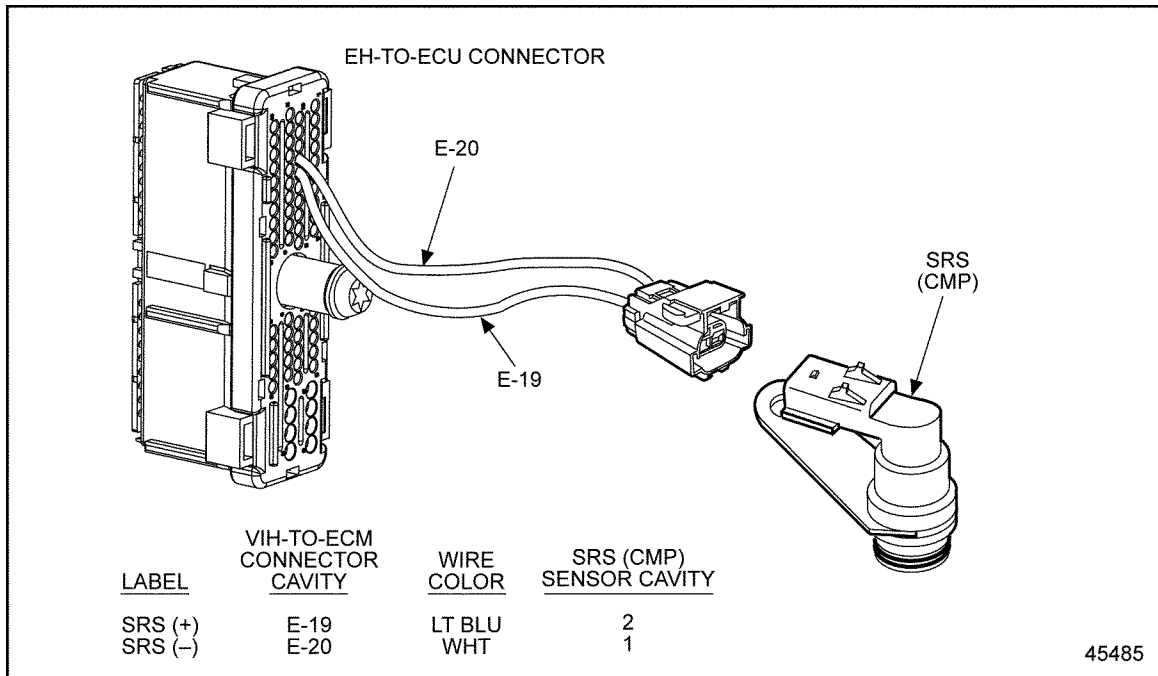

Figure 44-3 Engine Harness Connector to Camshaft Position Sensor
See Figure 44-3.
2. Check terminals at the SRS/CMP (both the SRS/CMP and harness side) for damage: bent, corroded, and unseated pins or sockets, or a bad contact. See Figure 44-3